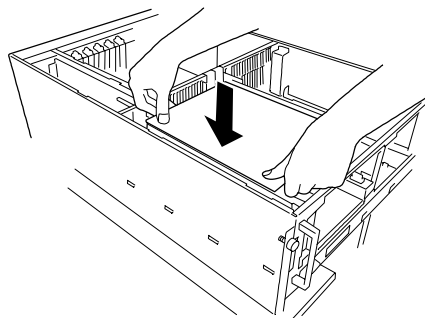

Figure 4-27. Installing a CPU box
22. Slowly push the CPU box with your thumbs as far as it will go into the system baseboard socket, see Figure 4-27.